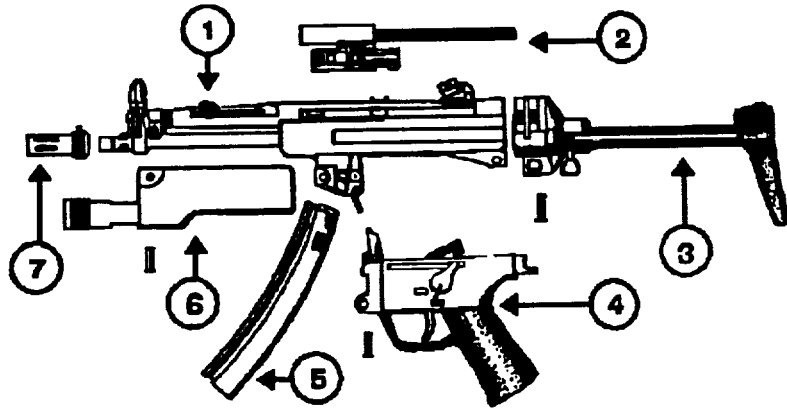

Figure 1-7. Field Stripped
1-9. FIELD STRIPPING THE WEAPON. Field strip the weapon into its seven major groups as shown in Figure 1-7. Barrel and Receiver Assembly (1), Bolt Assembly (2), Retractable Buttstock Assembly (3), Pistol Grip and Trigger Mechanism Assembly (4), Magazine Assembly (5), Handguard and Tactical Light Assembly (6), and Flash Suppressor (7).